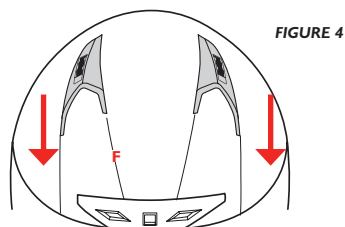

FIGURE 4
FRONT AIR INTAKE UPPER — F — Figure 4/5
- Figure 4: Slide the cursors forwards to completely close the air intake